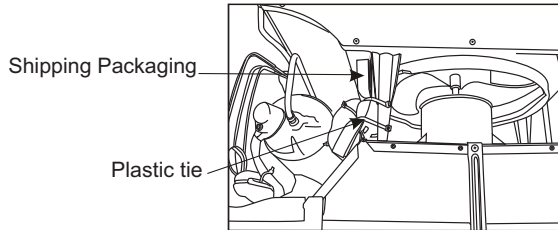

Fig.7
10. Your unit may come with internal packaging. This packaging must be removed prior to installing the air conditioner back into the cabinet. (see Fig.7).